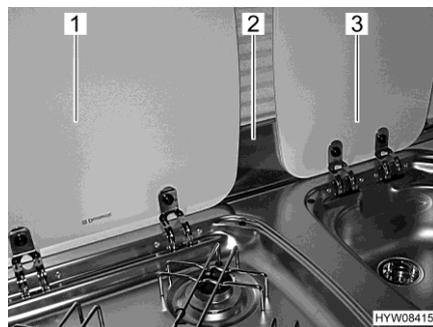

Fig. 9 Flame protection and covers
- Remove flame protection (Fig. 9,2) and store securely.
- Close sink cover (Fig. 9,3) and gas cooker cover (Fig. 9,1).